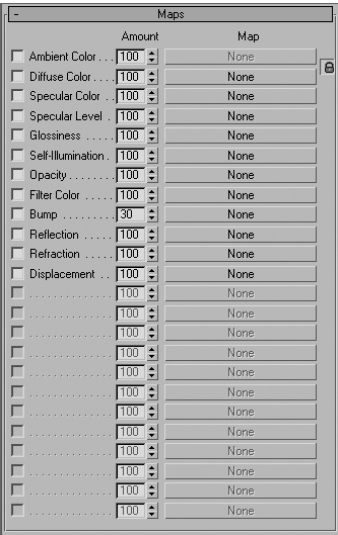

Figure 7.4
**Maps** Maps allow you to apply bitmap textures, which are maps that help define the material beyond simple color and opacity settings. Common maps include bump maps (use grayscale values to simulate bumps and dents), displacement maps (use grayscale maps to mathematically calculate depth and height and redefine the mesh accordingly), reflections, glossiness, and so on, as shown in Figure 7.4.